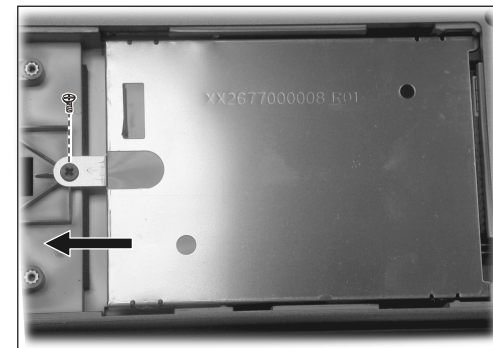

Figure 2-8 Remove HDD module
3. Remove the one screw and slide the HDD module out of the compartment. (Figure 2-8)